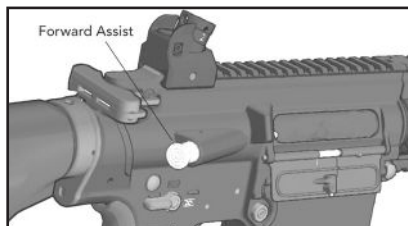

Fig. 34 – Tap Forward Assist
7. Tap the forward assist to ensure the bolt is fully forward and locked (Fig. 34).